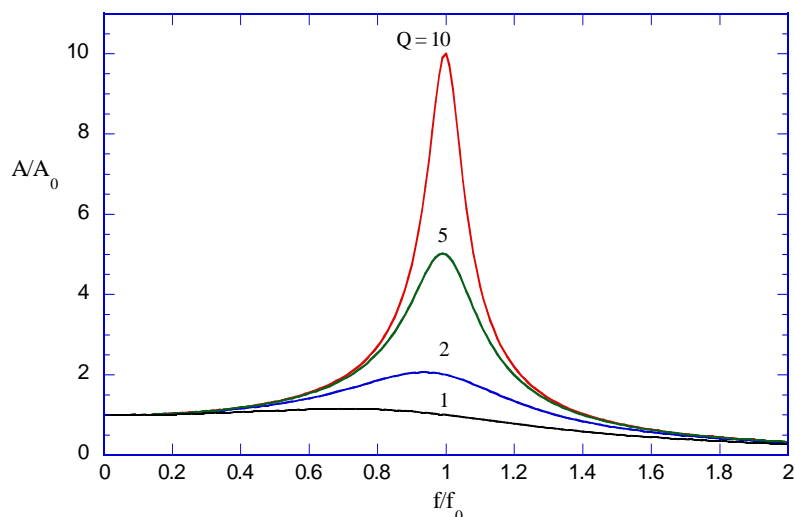

Fig. 3. Amplitude as a function of frequency for various values of $Q = 2\pi f_0 m/b$
At $\omega = \omega_0$ the displacement is 90° out of phase with the driving force. From Eq. (30) we see that the amplitude would go to infinity if b , the damping coefficient, is zero. In many mechanical systems one has to build in damping, otherwise resonance could destroy the system. Increased damping will lower the amplitude but widen the resonance curve (Fig. 3).
is presented in Fig. 3 for different ratios of b/m .
- Now we want to be able to produce a graph like that in Fig. 3. You will want to find the amplitude for some frequencies around the resonant one. You already have data for f_R , 0.1 Hz, and $2f$. Try frequencies of $0.80f_R$, $0.90f_R$, $0.95f_R$, $1.05f_R$, $1.10f_R$, and $1.20f_R$, around the resonant frequency and find the peak-to-peak amplitude $2A$. One group member should continue with the next step 2 while taking these data.
2. Type your values for all the frequencies f and the amplitudes $2A$ into Excel and **produce a graph** like that shown in Fig. 3 for your data. Just plot $2A$ versus f instead of A/A_0 versus f/f_0 that is shown in Fig. 3. Your graph should have the same shape. If you have more time, measure $2A$ for additional frequencies to fill out the graph you produce. **Include your table and graph in your report.**